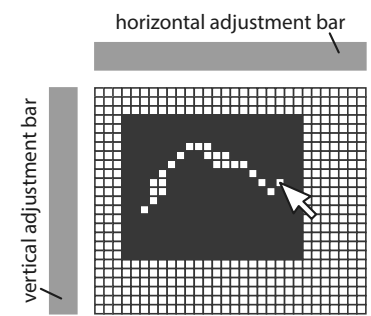

Fig. 81
- To delete an individual pixel move the cursor to the relevant pixel in the editing area and click the left mouse button once, **Fig.81**.